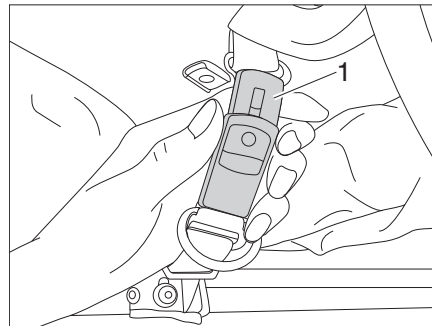

Fig. 17 Open the securing belt
- Open the securing belts (Fig. 17,1).